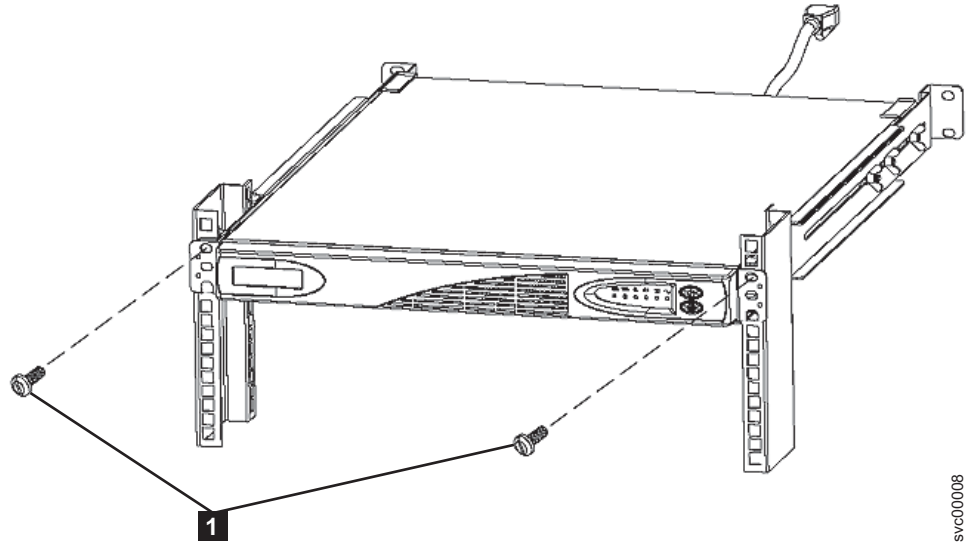

Figure 12. Installing the mounting screws for the uninterruptible power supply 5115
5. At the front of the UPS 5115, install the two mounting screws **1**. See Figure 12 on page 39